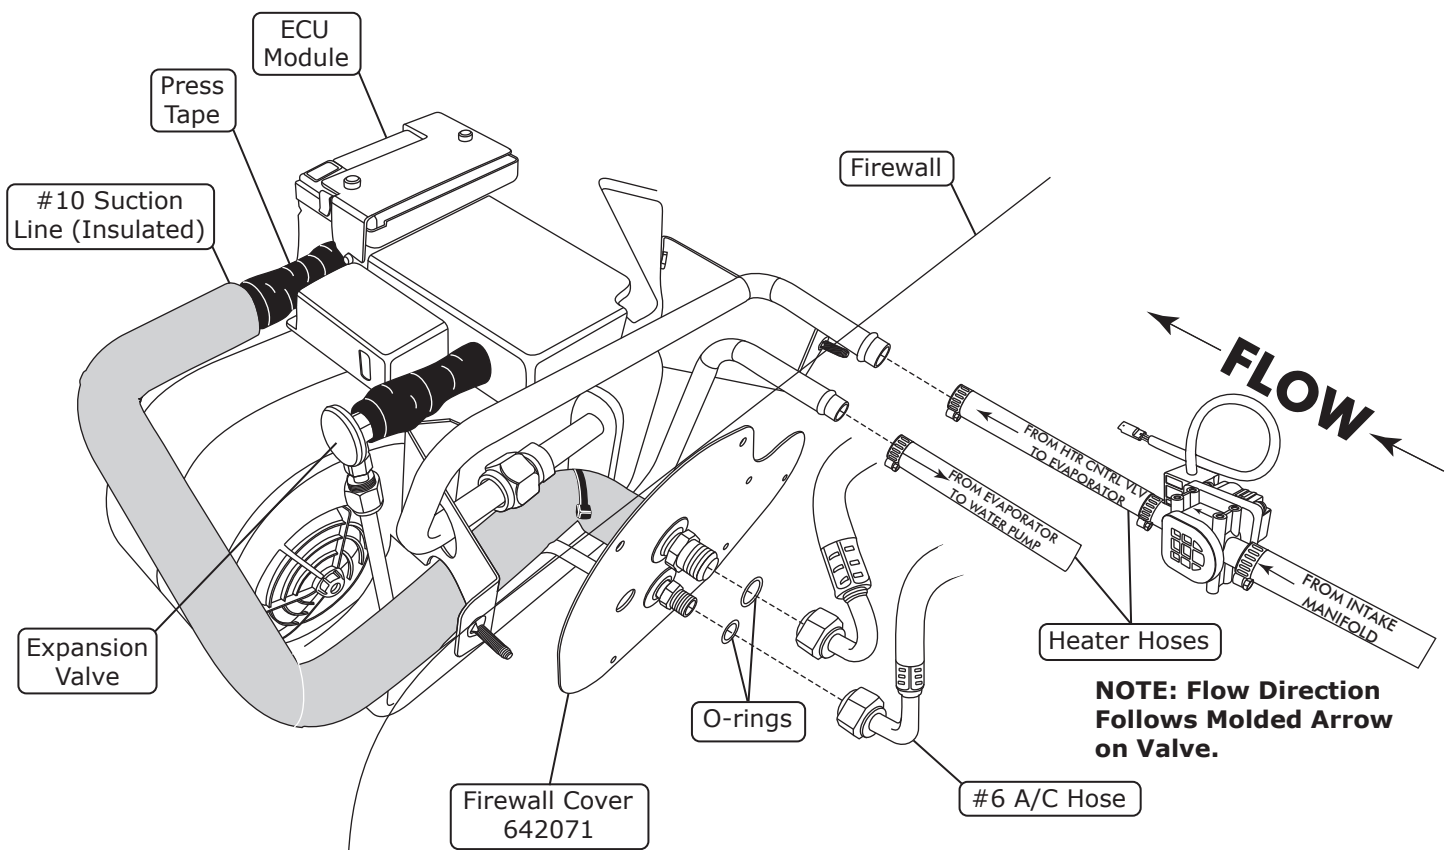
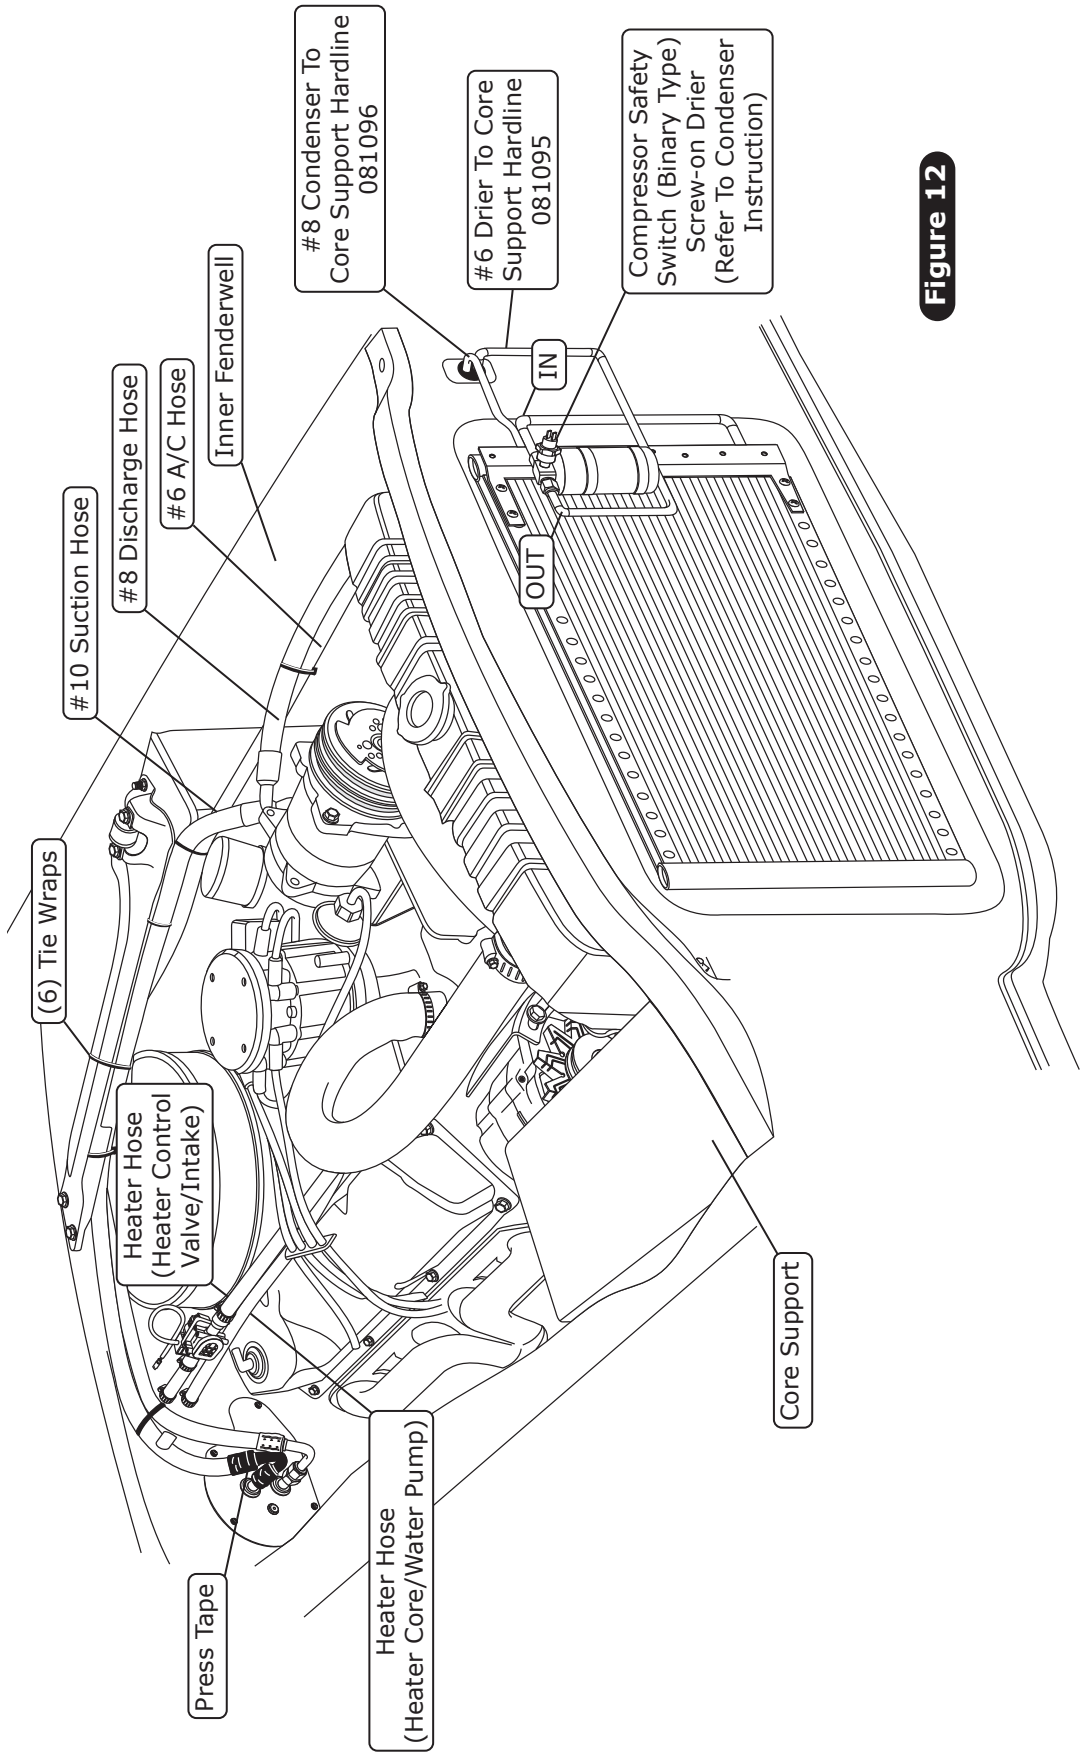

Figure 11
Figure 12
1. Locate the #8 compressor A/C hose. Lubricate (2) #8 O-rings (See Figure 10, above) and connect the 45° fitting to the #8 discharge port on the compressor. Then route the straight fitting with service port to the #8 condenser hardline coming through the radiator core support (See Figure 12, Page 13). Tighten each fitting connection as shown in Figure 10, above.
2. Locate the #10 compressor A/C hose. Lubricate (2) #10 O-rings (See Figure 10, above) and connect the 90° with fitting with service port to the #10 suction port on the compressor. Then route the 135° fitting to the #10 evaporator hardline coming through the firewall (See Figure 11, Page 12 & Figure 12, Page 13). Tighten each fitting connection as shown in Figure 10, above. **NOTE: Wrap the #10 fitting connections with press tape (See Figure 11, Page 12 & Figure 12, Page 13).**
3. Locate the #6 evaporator/drier hose. Lubricate (2) #6 O-rings (See Figure 10, above) and connect the straight fitting the #6 drier hardline coming through the radiator core support. Route the 90° fitting to the #6 evaporator hardline coming through the firewall (See Figure 11, Page 12 & Figure 12, Page 13). Tighten each fitting connection as shown in Figure 10, above.
1. Route a piece of heater hose from the water pump to the heater line coming through the firewall as shown in Figure 11, below. Secure it using hose clamps.
2. Route a piece of heater hose from the intake to the heater line coming through the firewall as shown in Figure 11, below. **NOTE: Install the heater control valve in-line with the intake manifold (pressure side) heater hose and secure it using hose clamps as shown in Figure 11, below. Note proper flow direction.**